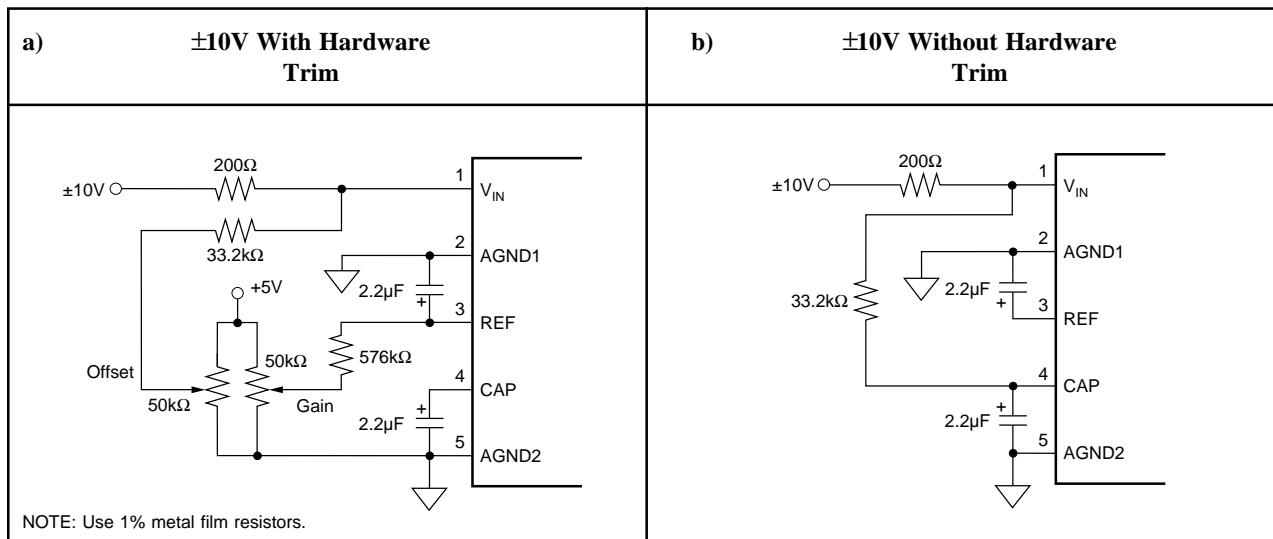

FIGURE 6. Circuit Diagram With and Without External Resistors.
The ADS7805 offers a standard  $\pm 10V$  input range. Figure 6 shows the necessary circuit connections for the ADS7805 with and without hardware trim. Offset and full scale error(1) specifications are tested and guaranteed with the fixed resistors shown in Figure 6b. Adjustments for offset and gain are described in the **Calibration** section of this data sheet.